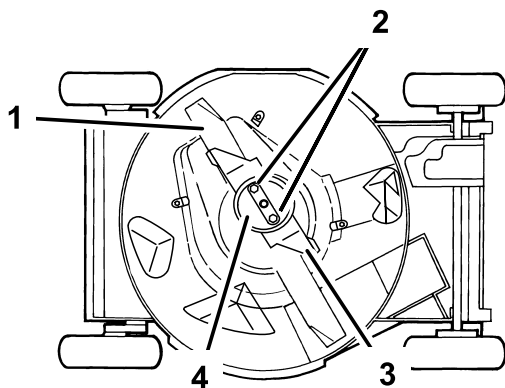

Figure 34
4. Tip the lawn mower onto its **right** side (Figure 34).
Grasp the end of the blade using a rag or a thickly padded glove. Remove the blade nuts, the anti-scalp cup, the accelerator, and the blade (Figure 34).
5. Remove 2 blade nuts, the anti-scalp cup, the accelerator, and the blade (Figure 34).